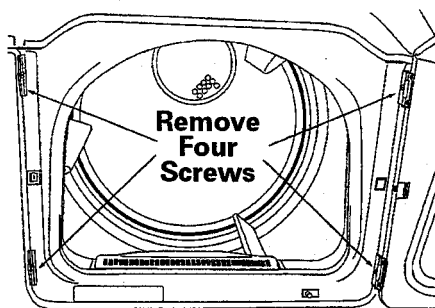

Figure 2-24
1. Open the door and remove the four screws along the inside lip of the door opening, *see Figure 2-24*. Two screws are located vertically on either side of the door opening. These screws secure the front panel to the front shroud assembly.